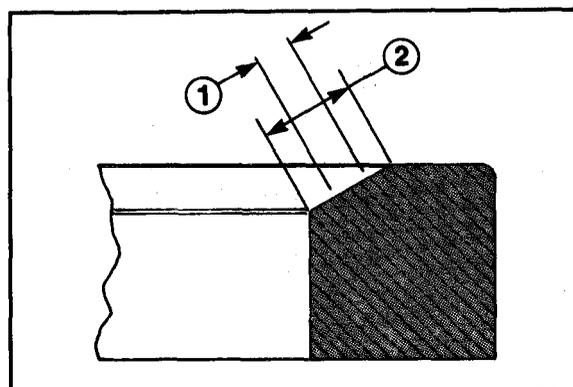

Figure 6-20
22. Measure valve seat width indicated by lapped surface. Valve seat minimum width (1) limit is 0.060 in. (1.5 mm) and maximum width (2) is 0.080 in. (2.03 mm) (Figure 6-20).